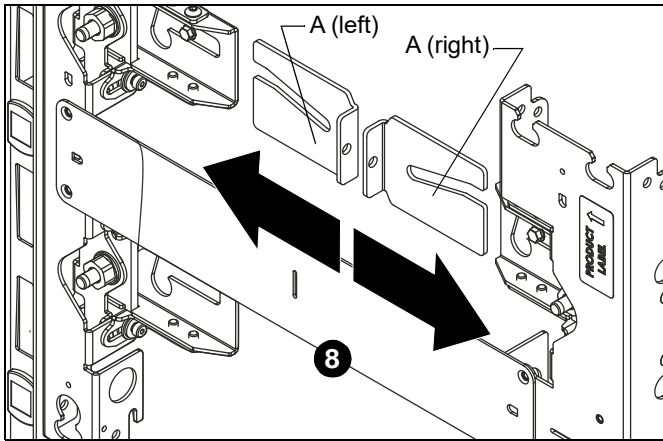

Figure 12
- Slide the left (A-Left) and right (A-Right) adjustment washers into place behind the partially installed lag screws. (See Figure 12)